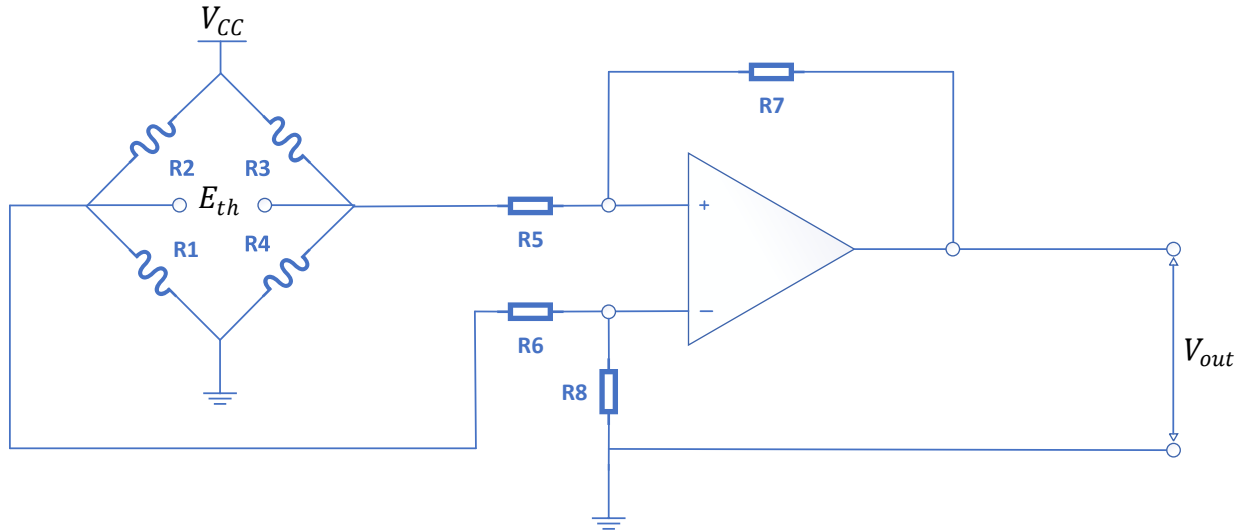

Figure 5: Strain Gauge Bridge & Differential Op-Amp
**7.2:** Utilizing Figure 5 design a Resistive Deflection Bridge for the force range  $1 \leq F \leq 10N$ . Clearly motivate and state all your design choices.